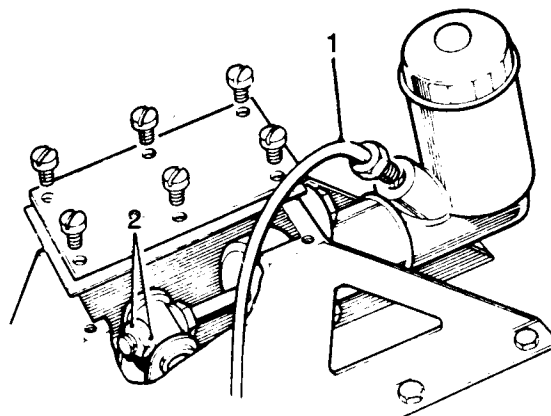

Fig H3.16
- (8) Refer to Fig H3.16. Refit the fluid pipe (1) to the clutch master cylinder.
- (9) Bleed the system (see Sub-sub-section H3.6).
- (10) Set the clutch pedal and master cylinder (see Sub-sub-section H3.3).